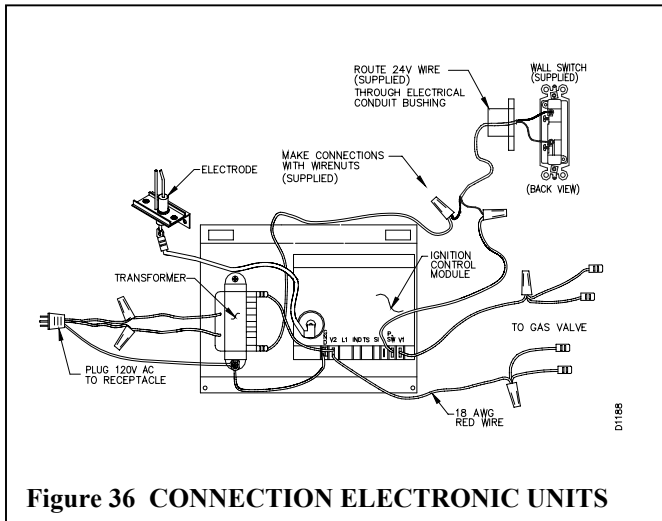
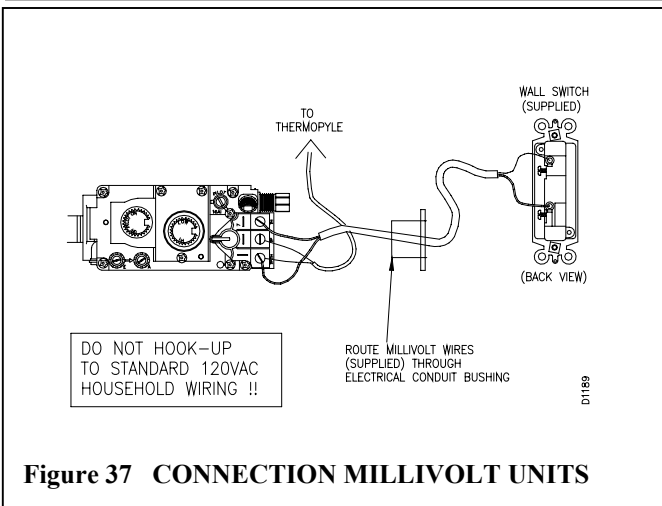

Figure 36 CONNECTION ELECTRONIC UNITS
Figure 37 CONNECTION MILLIVOLT UNITS
The (V)DVF36TPNEA/TSTE series uses a 24 VAC current supplied from a transformer mounted on the ignition module and is prewired for easy connection to a wall switch (see figure 36). The (V)DVF36TPNA/TSTA versions use a self generated millivolt current that allows you to activate the gas control valve directly, without the use of normal household electricity (see Figure 37). Both versions are supplied with a wall switch kit for ready connection and mounting.
2. Disconnect the wall switch wires from the terminals marked TH and TPTH on the (see figure 37).
2. If a wall switch was installed it must be removed from the ignition control circuit for the remote to work properly. Remove the wire nuts from the switch connection at the ignition control module. Using one of the wire nuts, connect the transformer (blue) wire to the remaining wire connected to the control terminal marked (P. SW) (see figure 36).